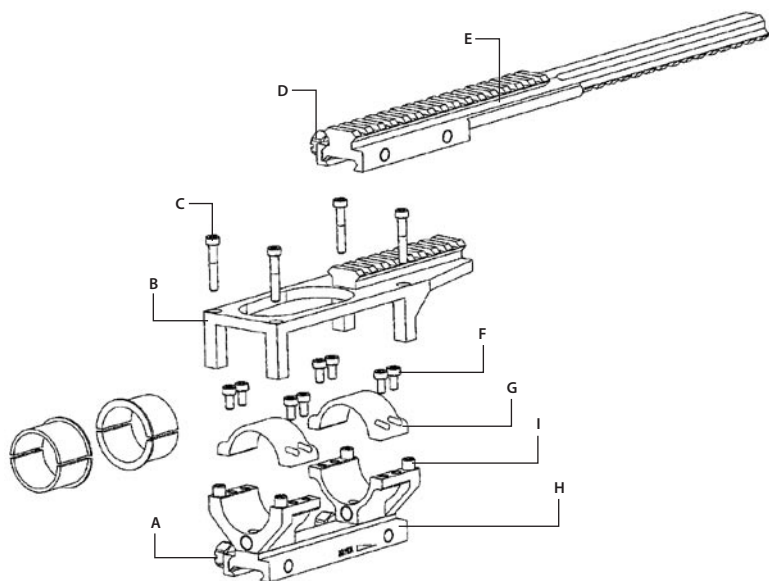

FIGURE 3-8. OPTIONAL FSRS SYSTEM. COMPONENT PARTS
The FSRS system is delivered ready-assembled. The components of the FSRS system are shown in Figure 3-8
Dismantle the FSRS system as follows (see Figure 3-8):
1. Loosen the nuts (A, Figure 3-8). Install the mount (H) on the weapon's Picatinny/ Weaver rail; the two pins of the mount's clamping device should be secured in the transverse slots of the rail. Manually retighten the nuts (A).
1. Install the bridge (B, Figure 3-8) on the bushes (I). After applying a small amount of thread lock to the threads, install and tighten the screws (C) using 3mm hex key.